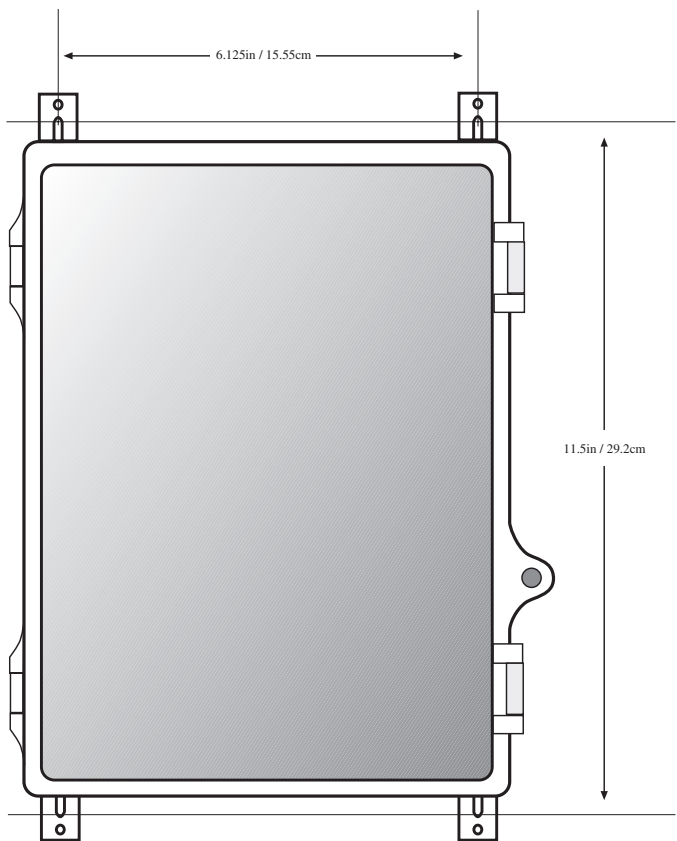

Figure 1: NEMA-4 Mounting diagram
Locate a suitable mounting location for the Cell682 enclosure that provides good radio reception and convenient wiring to your equipment and power. On the top and bottom of the housing are mounting tabs to attach the unit to a wall. The mounting surface should be sturdy enough to support 10 lbs. The unit should be mounted using four #10-32 bolts where appropriate, or four #10 tapping screws. (The screw kit for the Cell682 includes (4) #10-32 screws, (4) #10-32 nuts, and (4) #10 lockwashers). When mounting the unit to a wall, make sure the mounting screws fully engage a solid member (for example, a stud) of the support structure. Mount the Cell682 in an upright position so that you can easily connect wires to the terminal strips. The dimensions of the NEMA-4x enclosure are: 12.1” x 8.0” x 5.5” / 30.7 x 20.3 x 13.9cm. See Figure 1.